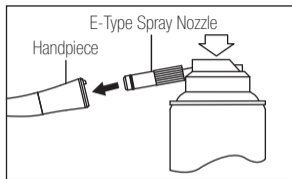

Fig. 5
- 3) Insert the Spray Nozzle in rear of the handpiece. Hold the handpiece and spray for approximately 2-3 seconds. Apply lubricant until it expels from the handpiece head for at least 2 seconds. (Fig.5)
- 3) Lubricate handpiece by using NSK PANA SPRAY Plus (Fig.5) or Care3 Plus.